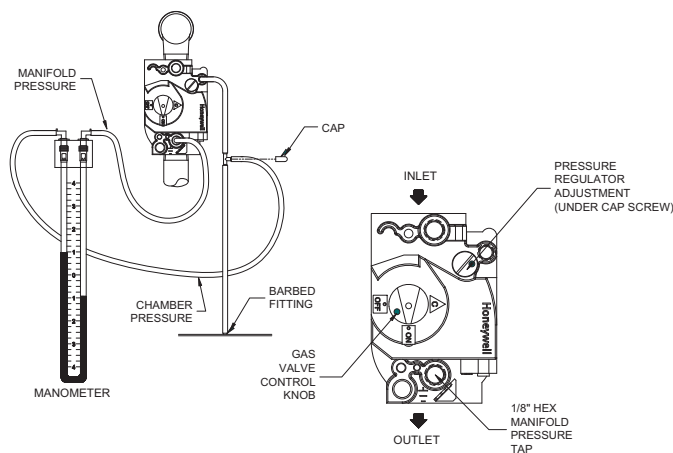

Figure 31 – Measuring Net Manifold Gas Pressure
4. Locate the reference hose on the second gas valve which goes from the vent fitting on the gas valve to a barbed fitting on the deck of the pool heater (see Figure 31).
6. Remove the 1/8" hex plug from the manifold pressure tap on the gas valve (see Figure 31). Retain plug for future use.
7. Install a fitting in this tap that is suitable for connection of a hose to a manometer, or (+) side of a magnahelic gauge (see Figure 31).
* Net Manifold Pressure equals the measured manifold pressure minus the chamber pressure. See Figure 31 to measure the Net Manifold Pressure.